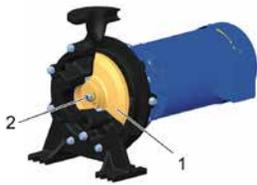

Fig. 120 Checking the pump impeller (example: herborner.F-N)
7. Tighten the impeller securely with the nut (Fig. 120/2). Hold the impeller with a gloved hand when doing so.